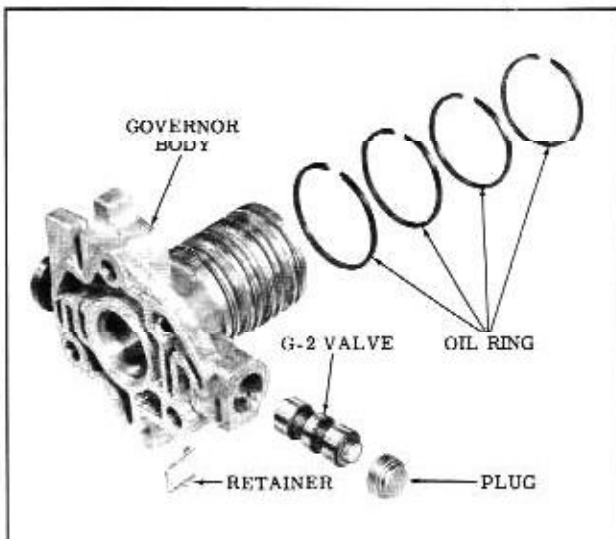

Fig. 3-74 Removing Governor Oil Rings
1. Inspect and remove, if necessary, 4 lock type oil rings. (Fig. 3-74)